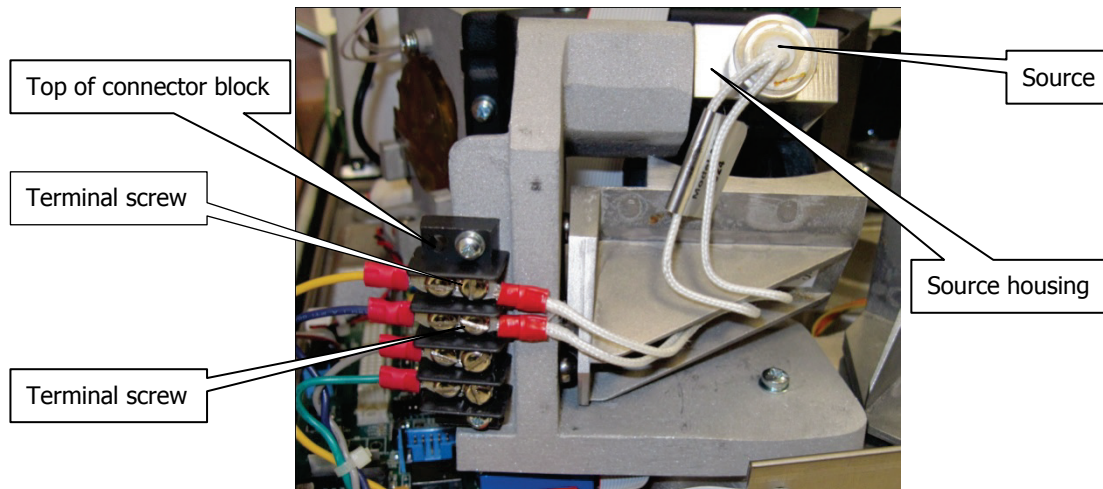

Figure 42 Terminal screws (MIR source shown)
2. Slacken the two terminal screws (Figure 42) securing the wires leading to the source. Disconnect the wires from the connectors.